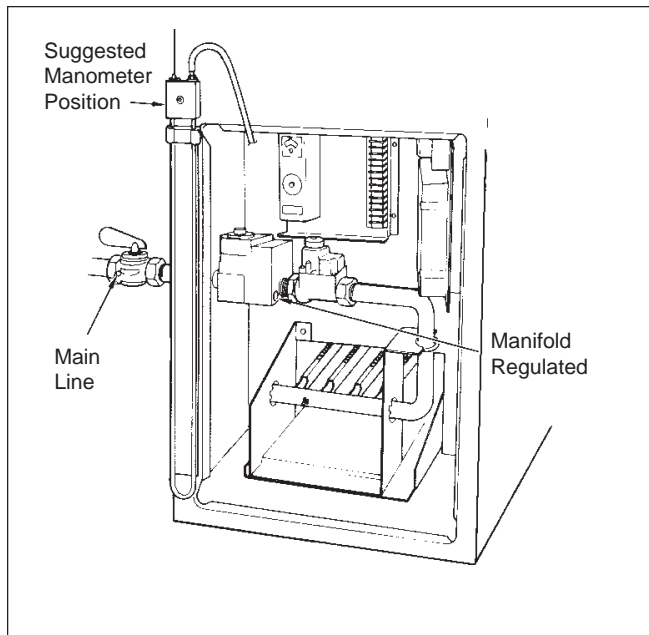

Figure 33. Gas pressure test.
1. Attach a manometer (or a dry gas pressure gauge) to heater jacket (see Figure 33).